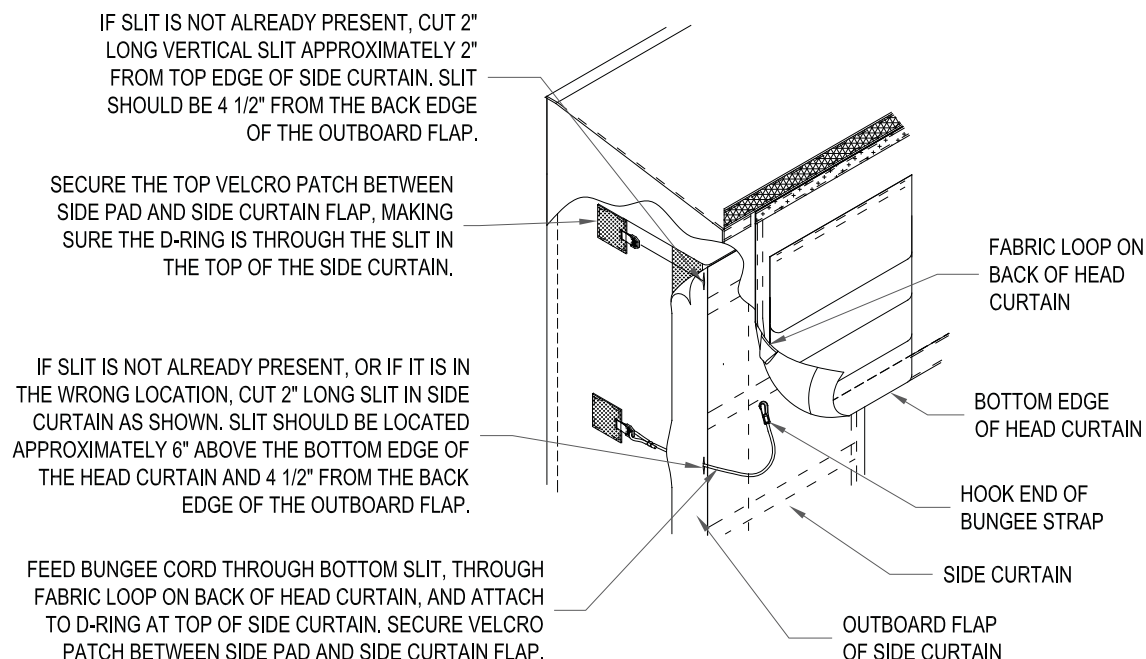

FIGURE 2
5. Install Windstraps - Reference Figure 2.
- Once the curtain face is attached properly, finish by attaching the face retention strap to the side frame backer board. Use the supplied roofing nail. **(Note: If retention strap lands in area on header mounting bracket, attach using existing woods screws that secure mounting bracket to backer board, or use a tek-screw and attach to mounting bracket itself) Figure 2**